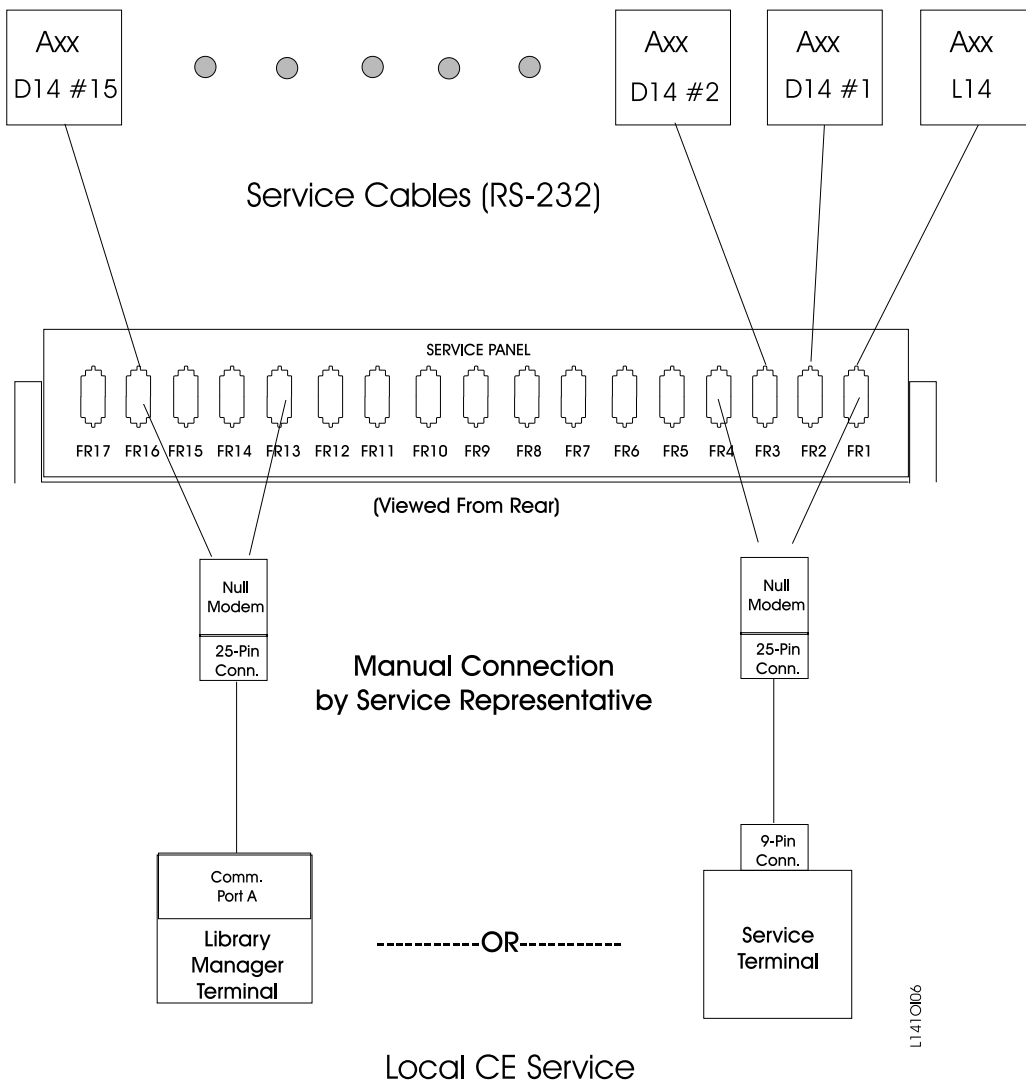

Figure 6-7. A00/A50 Service Panel Attachment—Local CE Service(new style)
**Note:** The service panel comes in two configurations, as shown in Figure 6-7 on page 6-18, and Figure 6-9 on page 6-21 .
- 1. Local CE Service (see Figure 6-7 on page 6-18)
Refer to Figure 6-7 on page 6-18 for attachment of the service terminal or library manager terminal, and Figure 6-9 on page 6-21 for attachment of the Remote Assistance feature.